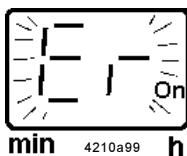

Fig. 23 - Display of a fault indication
- If pump does not complete the cycle within 15 minutes of operation, alarm message "Er" will be displayed as a flashing light in the keypad window, see Fig. 23
- 3 - SSV divider block 5 - Plug (1/8") for external return line (R) or external pressure line (P)
- The fault indication " Er " (error) is displayed as a flashing light (fig. 23). At the same time, a potential free contact is available for the external fault indication (option).